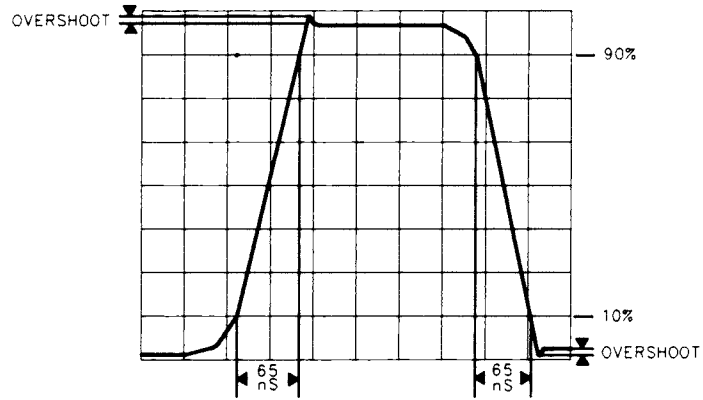

Figure 3-21.
18. Use the oscilloscope $\Delta t \Delta V$ markers to measure the risetime, falltime, and percent overshoot of the composite Xdeflection waveform. Rise and fall times should both be less than approximately 65 ns between the 10% and 90% points on the waveform. Overshoot should be less than 3% (approximately 0.25 divisions). See Figure 3-21.